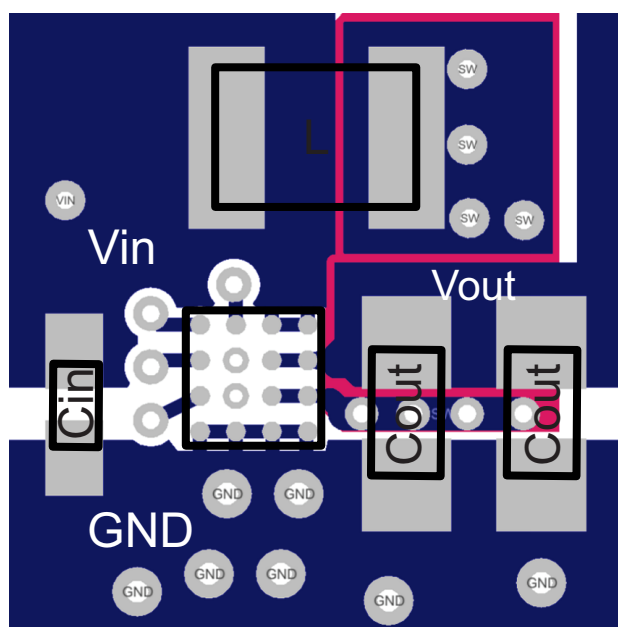

图 65. Suggested Layout (Top)
- Place the output capacitor(s) as close as possible to GND and  $V_{\text{OUT}}$ , as shown in 图 65.